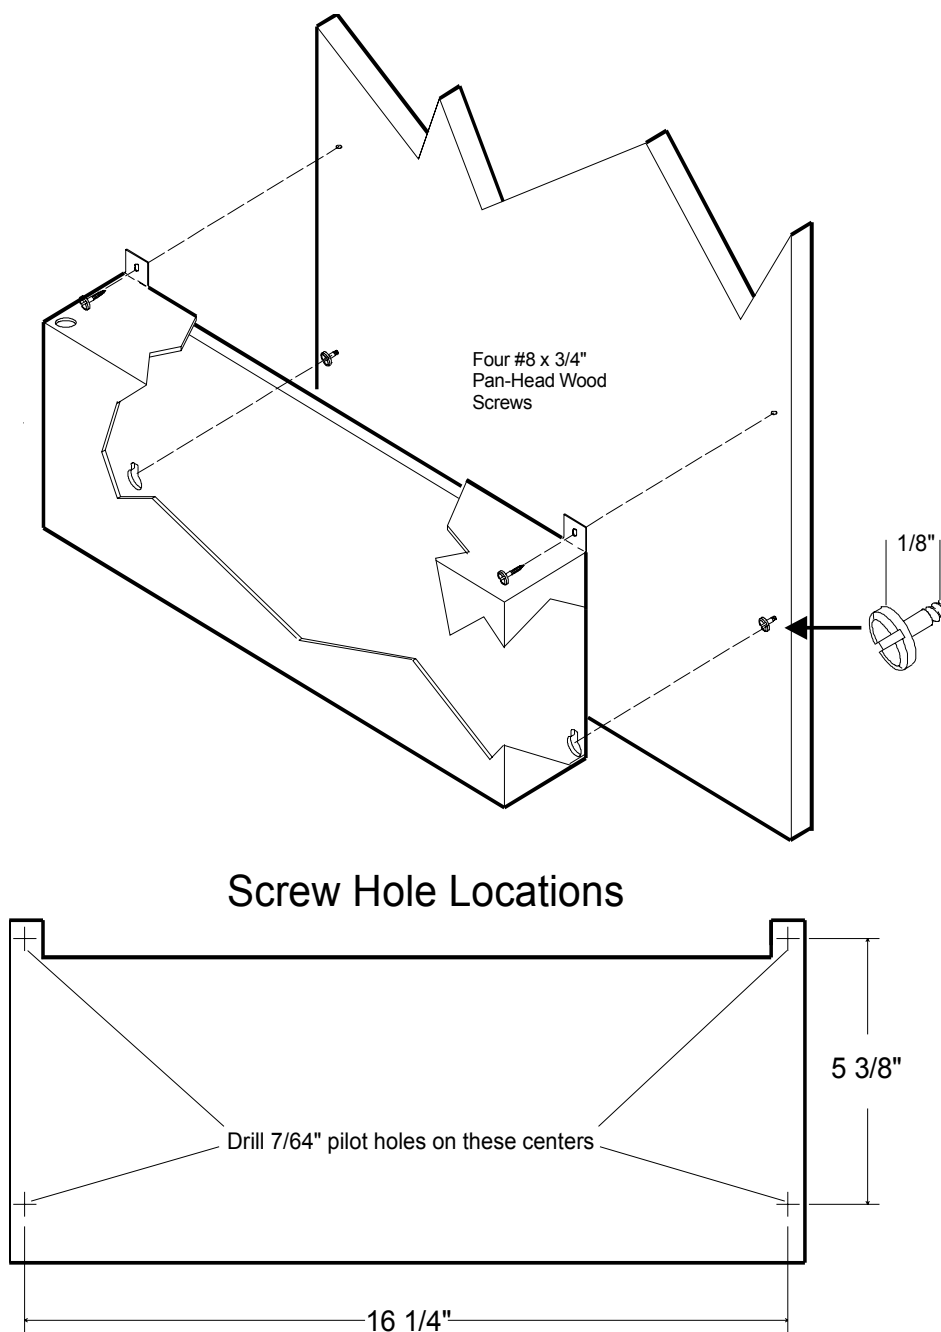

Figure 4-8 Mounting the Battery Unit
To mount the battery unit on a nearby wall, locate the battery unit within 5.5 feet of the Power Converter/Battery Charger and use screws or anchors appropriate to the mounting surface. To mount the battery unit on a 3/4-inch piece of plywood, use four #8 x 3/4-inch pan-head wood screws. See Figure 4-8.
1. Using the template included with the battery unit, clearly mark the locations of the four screws on the plywood. If this template is misplaced, a scaled-down copy of the template, with dimensions, is included in Figure 4-8.
3. Drive the lower two #8 x 3/4-inch pan-head wood screws into the lower pilot holes until the heads are within 1/8 inch of the plywood (see enlargement in Figure 4-8). DO NOT drive the screws until the heads seat on the plywood.